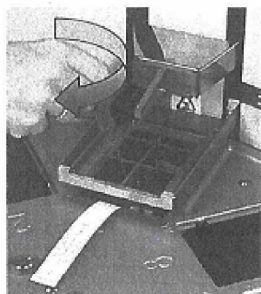
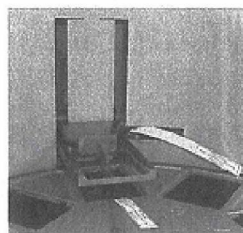

Figure 27 Refitting the transport lock of the heating block (B)
Figure 31 Both transport locks refitted
5. The transport lock of the heating block is refitted according to Figure 27. Screw the transport lock screw clockwise (Figure 27). Figure 31 shows both the transport locks refitted.
Figure 31 shows both the transport lock of the heating block and the tip comb holder refitted.